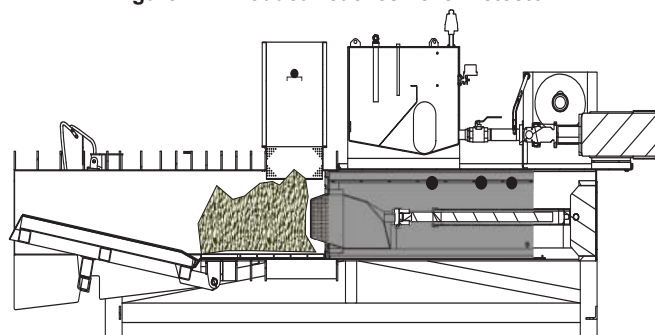

Figure 25. Plunger Retracts, Product Falls Into Chamber
3. **PRODUCT FALLS INTO CHAMBER** Plunger retracted and the product falls into the chamber. PROX 4, PROX 3 and PROX 2 activated (see Figure 25).
3. **PRODUCT FALLS INTO CHAMBER** The plunger retracts and the product falls into the chamber. The plunger is fully retracted. **PROX 4**, **PROX 3** and **PROX 2** are activated (see Figure 25).